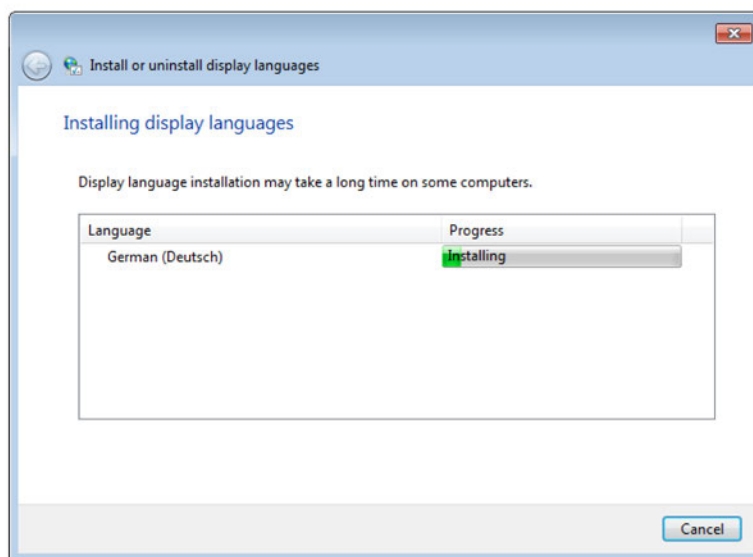

Figure G.49: Installing display languages
- 4 Windows® 7 will install the language, as shown in Figure G.49.